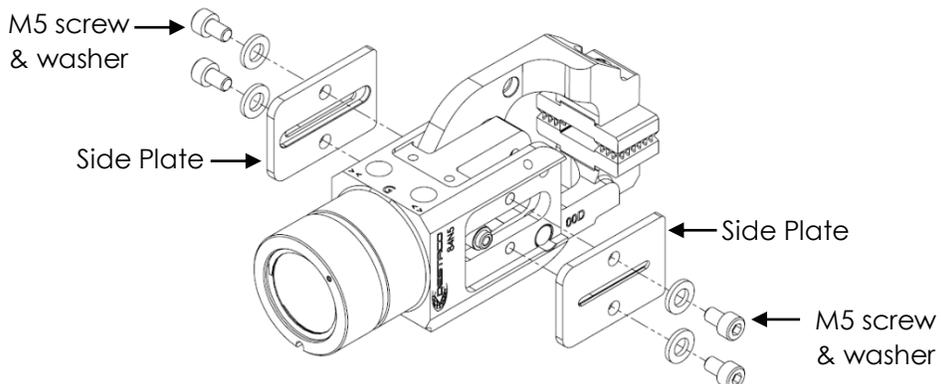

Fig.46
19. Attach the side plates to each side of the gripper body such that the exposed end of the cam pin is in the slot provided in the side plate. Apply Loctite 242 or equivalent to M5 screw and tighten it using 4mm Allen key to 6Nm (see Fig.46).